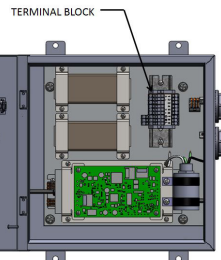

Figure 2. EM UNV1 Configurations
2. Locate the terminal block per Figure 2 or 3.
- b. Locate the dimming control signal input terminal block per Figures 2 and 3.